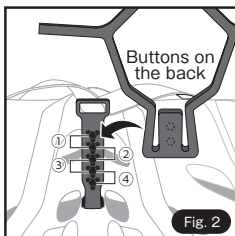

Fig. 2
- ② The angle of the adjuster is changeable at any of four levels by switching the positions (Fig.2).
- ② Attach the A.I. Net on the position as shown in the Fig.2.